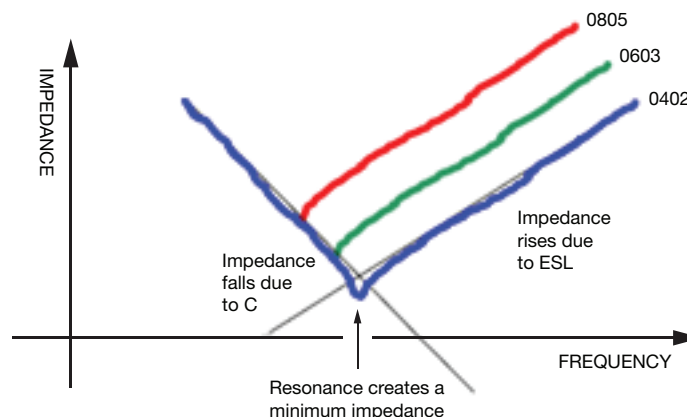

Fig. 4
High speed circuits are an exception where inductive loads may delay the delivery of the required current from the capacitor and therefore impact circuit performance. The effects on impedance (Z) vary with case size and can be seen in Fig. 4.